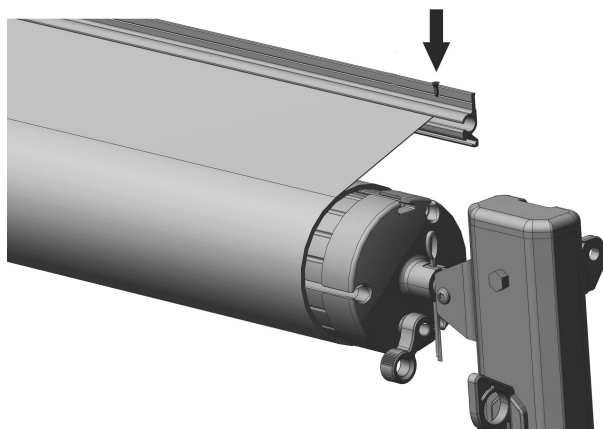

Figure C18
3.8 Open and close the awning 2-3 times to allow the awning fabric and mechanism to naturally adjust in place.(See the usage method). Check all the screws fixed and the awning can be used normally, then fix Screw B for both sides to prevent the fabric from moving.(Figure C18)